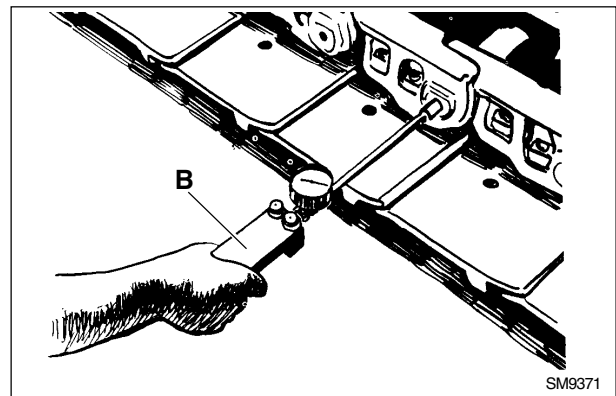

Fig. 5-18
3. Check the tightness of the seals and the oil filling into the pins, using tool (B) fig. 5-18.